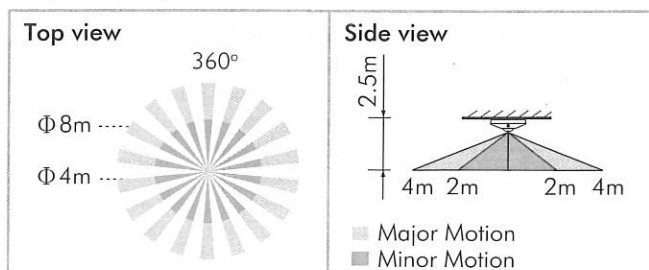

FIG.2
3.1.1 OS-384i-DALI-230 / OS-384S can be installed at the height of 2-5m and the height of 2.5m is recommended to gain the optimal detection pattern. The detection range can reach up to the diameter of 8m and 360° detection angle (See FIG.2).